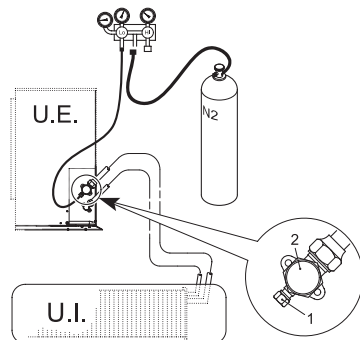

fig. 19
- With the service valves of the outdoor unit completely shut, remove the cap from the service tap (1-Fig.19) and the union (2-Fig.19) of the gas valve (the larger one)